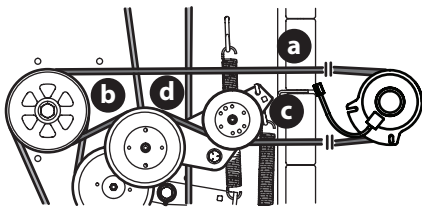

Fig. 52
1. Remove the PTO belt (a) from the deck as instructed in the Deck Removal section then remove it from around the PTO clutch (Fig. 52).
2. Route the PTO belt (a) (Fig. 52).
3. After routing the belt around the PTO pulley (b), use a 1/2" drive in the idler pulley bracket (c) and turn towards the right of the mower to finish routing the belt around the idler pulley (d) (Fig. 52).